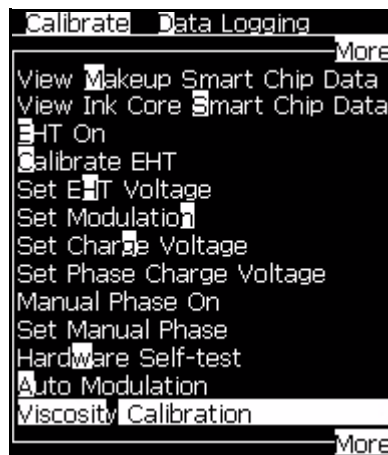

Figure 4-32: Viscosity Calibration
- 52 Perform viscosity calibration. Follow the prompts provided by the printer, assuming that the ink is known perfect ink (see Figure 4-32).